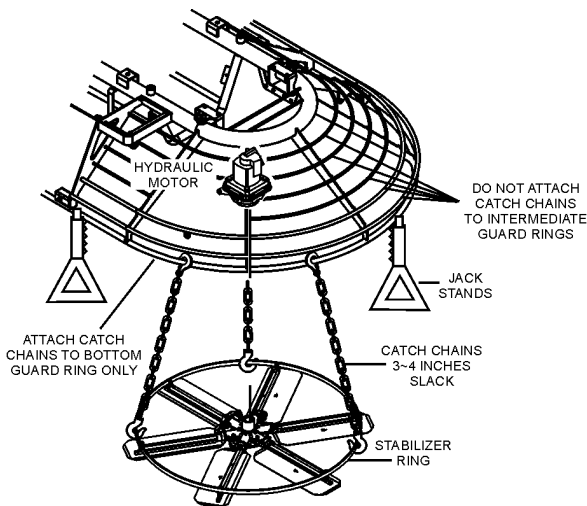

Figure 3. Supporting Stabilizer Ring
Position the catch chains so that they are equally spaced, with no more than 3 to 4 inches of slack. This will prevent the spider assembly from falling and striking personnel, causing bodily harm. The catch chains shown in Figure 3 are shorter than they appear. They are shown this way for clarity only.
1. Attach one end of three equally spaced straps or catch chains to the **stabilizer ring** (Figure 3). Attach the other end of these straps or chains to the **bottom guard ring** in a manner that would prevent the spider assembly from falling. **NEVER** use the **intermediate guard rings** to support the spider assembly.